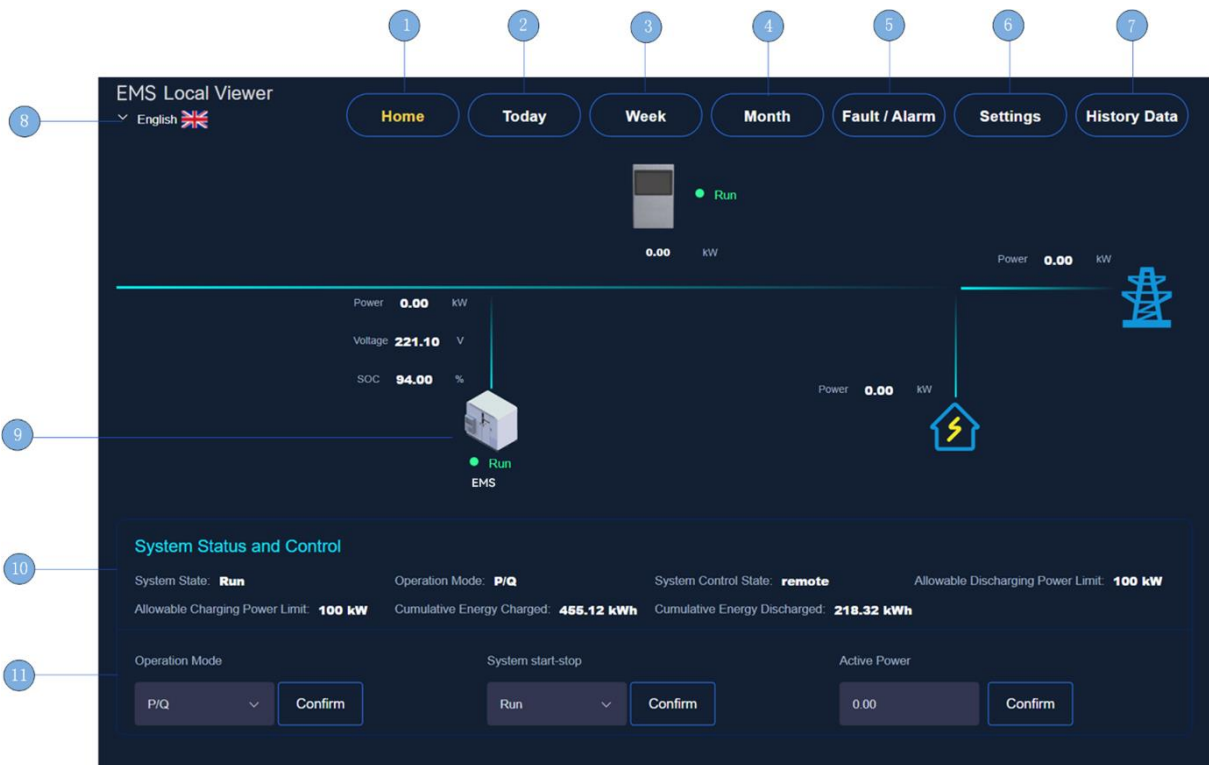
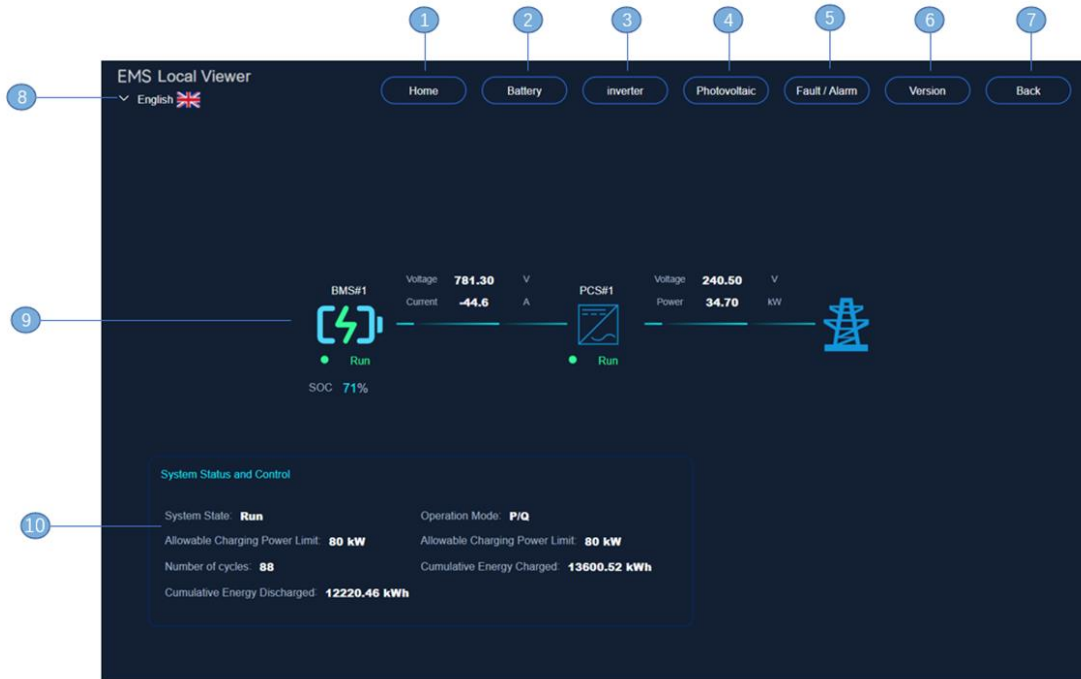

Fig. 7-1 Local Web System Main Page
Fig. 7-6 Local Web System Home Page Information Page
1. After configuring the IP address of the computer, open Google Chrome to enter the "127.0.0.1" page, in the "Home" page shown in Figure 7-1, you can view the system's total operating information and conditions, and you can issue commands for the system's operating mode, start/stop, active power, and so on. The "Home" page, as shown in Figure 7-1, allows you to view the general operating information and situation of the system, and issue commands for the system's operating mode, start/stop, and active power.
5. In the system home page, click on the specific device icon button (i.e., icon button "9" in Figure 7-1), you can enter the specific device operation information page, enter the first "home" page, you can view the system's total operation information and situation, as shown in Figure 7-6. The first "Home" page can be accessed to view the total system operation information and situation, as shown in Figure 7-6.